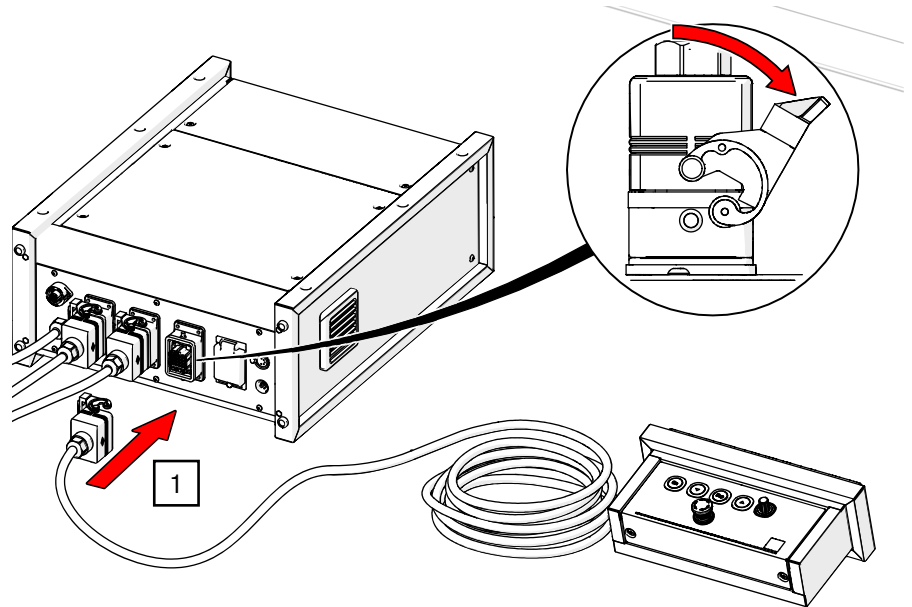

Fig. 28: G-FRAME 54 – Connect secondary control panel
1. Plug the control cable of the secondary control panel into the socket labelled 0XSB1 on the rear of the G-FRAME control unit and lock it with the bracket (see Fig. 28).